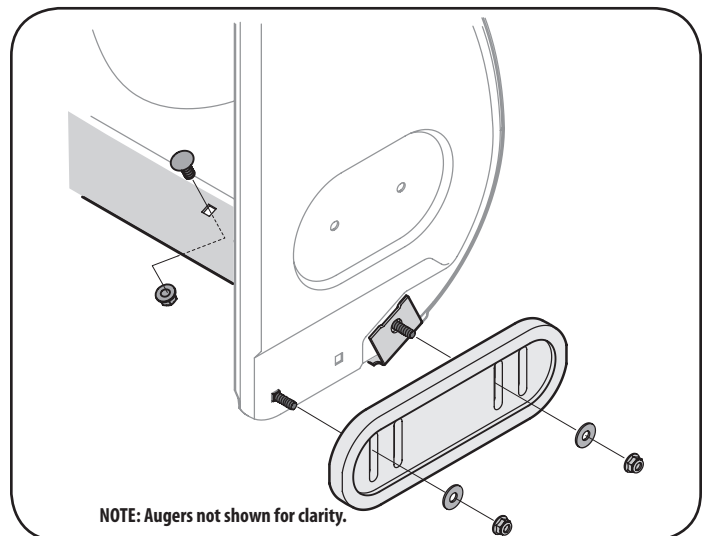

Figure 23
2. Reassemble new skid shoes with the four carriage bolts (two on each side), washers, and hex flange nuts. Refer to Figure 23.
2. Reassemble new shave plate, making sure heads of carriage bolts are to the inside of housing. Tighten securely. See Figure 23.